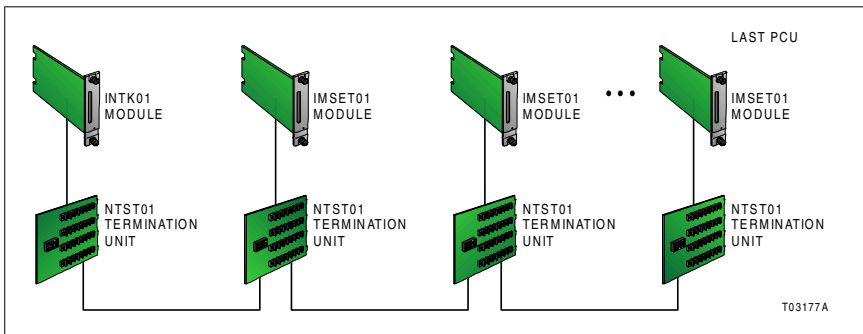

Figure 2-5. Sequential Time-Sync Link Connection
- Sequential mode - This scheme provides the bypass of a faulty NTST01 unit allowing the forwarding of the time information to the next module (Fig. 2-5).